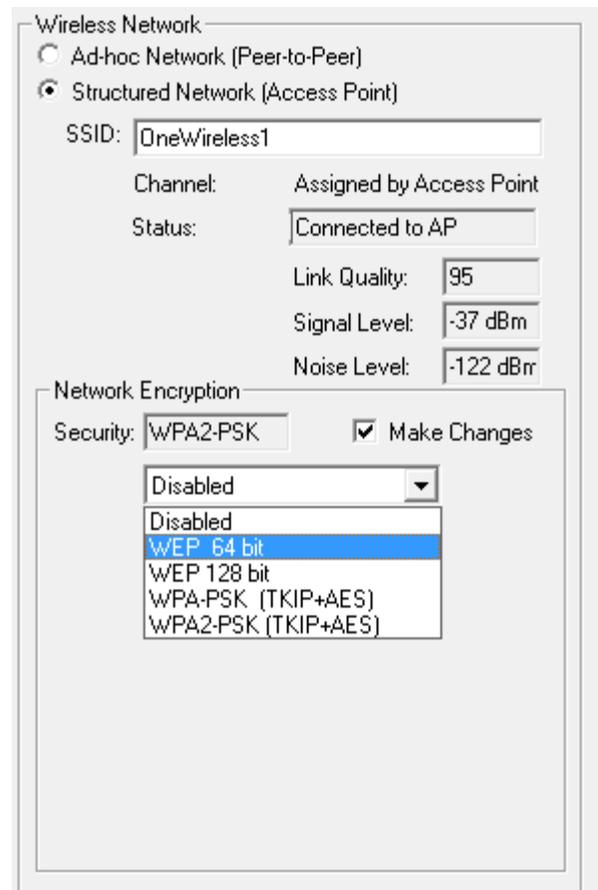

Figure 12. Wireless network settings
- After selecting the security type, enter the password key. For security type WPA/PSK and WPA2/PSK, simply enter a pass phrase. For security type WEP, select 64/128 bit encryption from the WEP Security dropdown. Four password keys are to be entered in Key 1 through Key 4. Fill these fields with the same password key. [Figure 12]